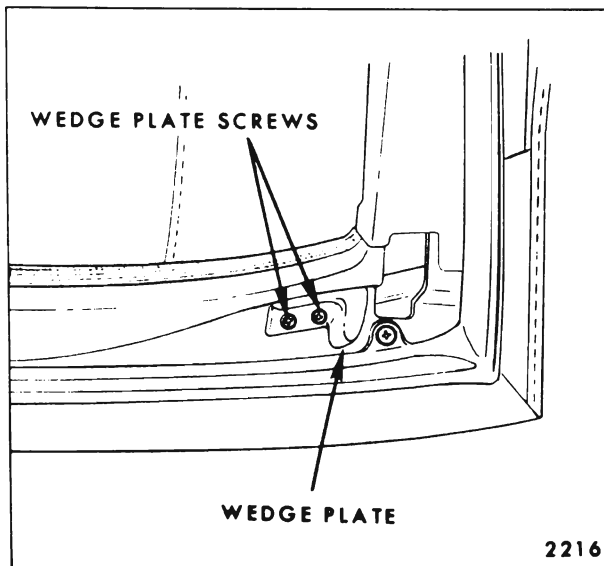

Fig. 13-76—Front Roof Rail Wedge Plate
2. Loosen wedge plate attaching screws (Fig. 13-76).